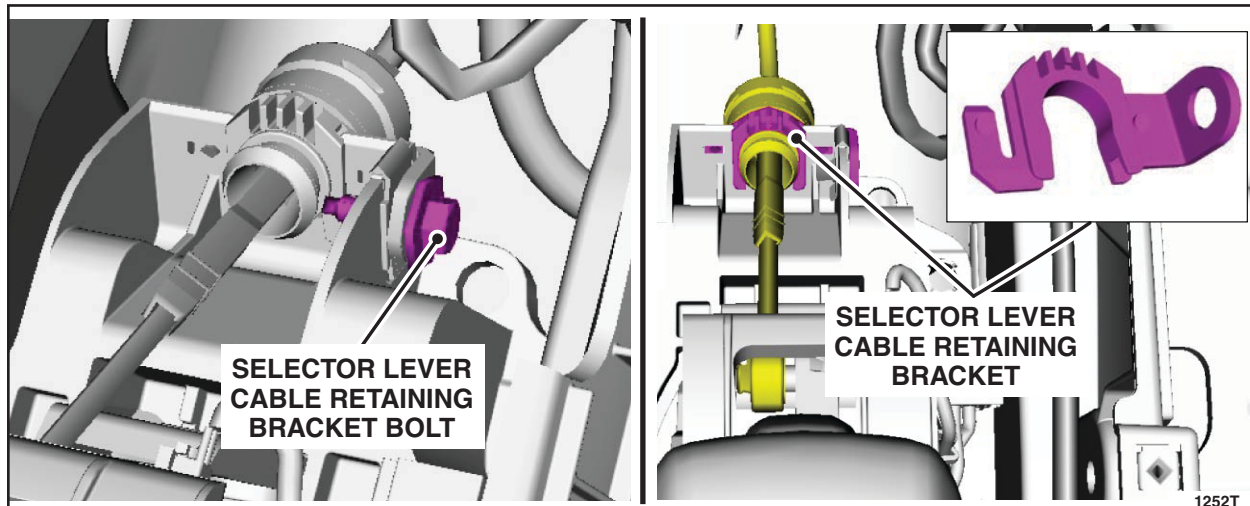

FIGURE 16
27. Remove the bolt from the selector lever cable retaining bracket. Remove the bracket and position the selector lever cable aside. See Figure 16.
10. Reposition the selector lever cable and install the retaining bracket. See Figure 16.